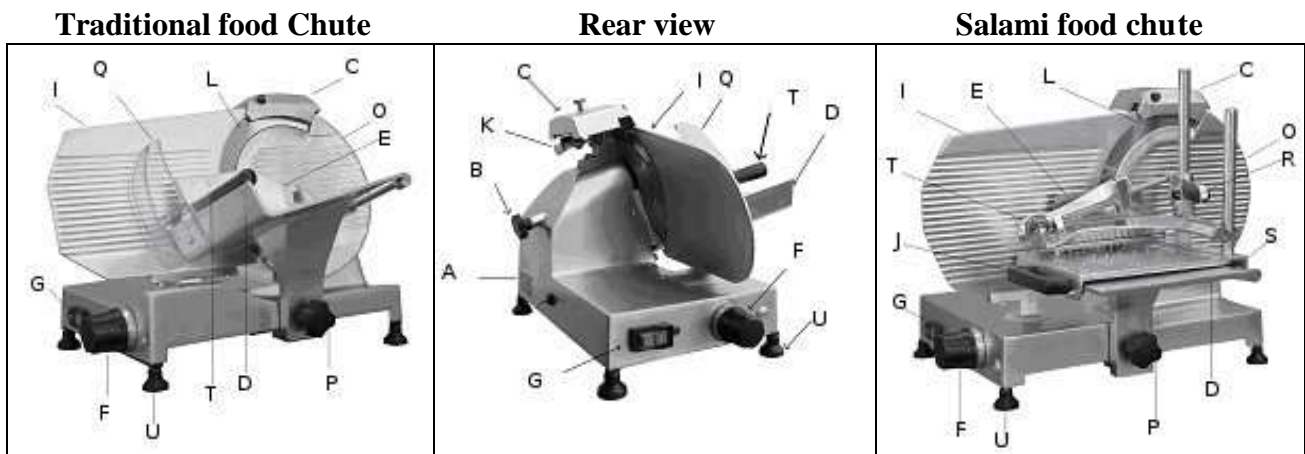

Figure 1 – Overview of the slicing machine
- Press On switch (Fig 1, G) and check that the blade rotates counterclockwise;
- Press Off switch (O) and check that the blade stops;